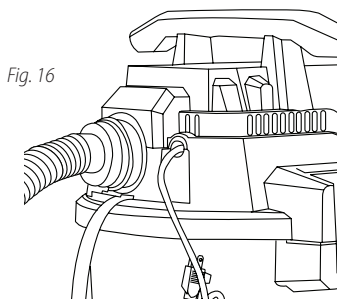

Fig. 16
36. The vacuum can be used as a powerful blower **4**. Clear hose **13** of any obstructions. Insert machine hose end with locking nut into blower port **4** and tighten locking-nut. **Fig. 16**. Do not over-tighten. Caution should be used when using as a blower **4** due to the powerful force of air when using certain attachments.